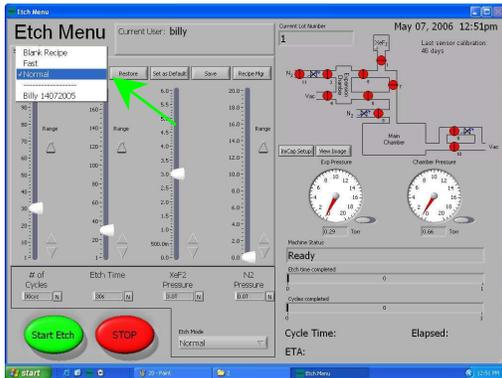
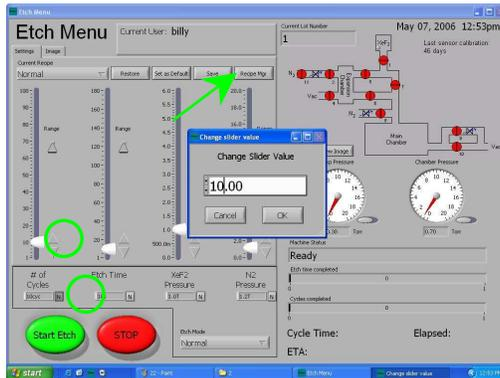

Figure 2.11
Figure 2.12
9. Under “**Current recipe**” (Figure 2.11), choose stored recipes (eg. “**Normal**”) or define a new one by altering the scale bars or press the “N” button for keypad input. To save a new recipe, click “**Save**” and input recipe name. (Figure 2.12) To undo alteration, press “**Restore**”.